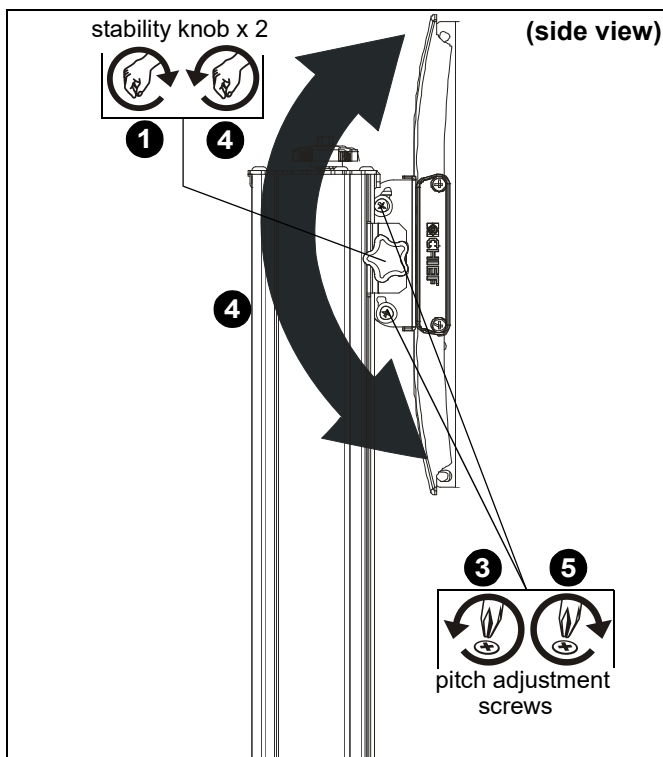

Figure 24
5. Loosen two stability knobs on either side of head assembly. (See Figure 24)
6. Loosen pitch adjustment screws to allow pitch to be adjusted. (See Figure 24)
7. Adjust pitch as desired. (See Figure 24)
8. Tighten pitch adjustment screws to lock pitch position. (See Figure 24)
9. Tighten two stability knobs on either side of head assembly. (See Figure 24)